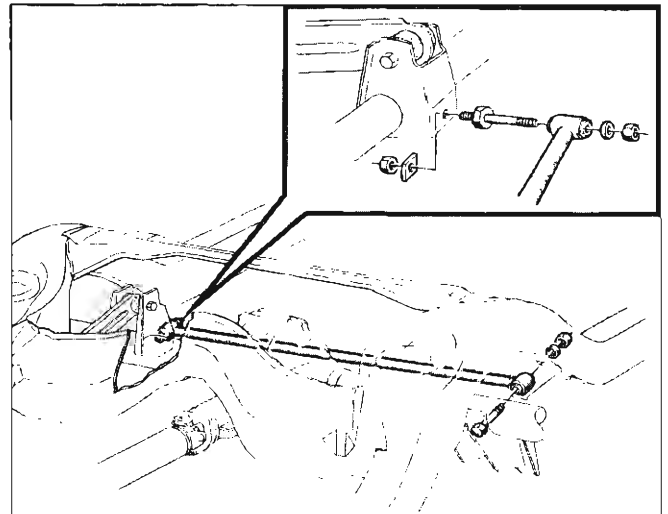

Fig. 34—Rear Suspension Tie Rod Attaching Points
1. Remove the nut, washer and bolt from the left hand side and the nut and washer from the stud on the right side that secure the tie rod to the brackets (fig. 34). Withdraw the rod from under the vehicle. An external shell service bushing is available for replacement.
2. Install the bolt, lock washer and nut to the left hand bracket (fig. 34). Do not tighten.